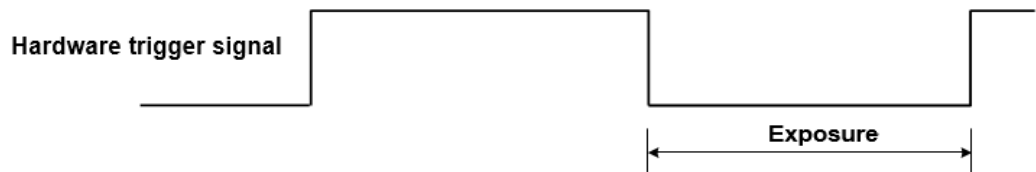

Figure 8-29 The sequence diagram in falling edge trigger of TriggerWidth exposure mode
- If falling edge triggering is enabled, exposure starts when the trigger signal falls and continues until the trigger signal rises, as shown in Figure 8-29.